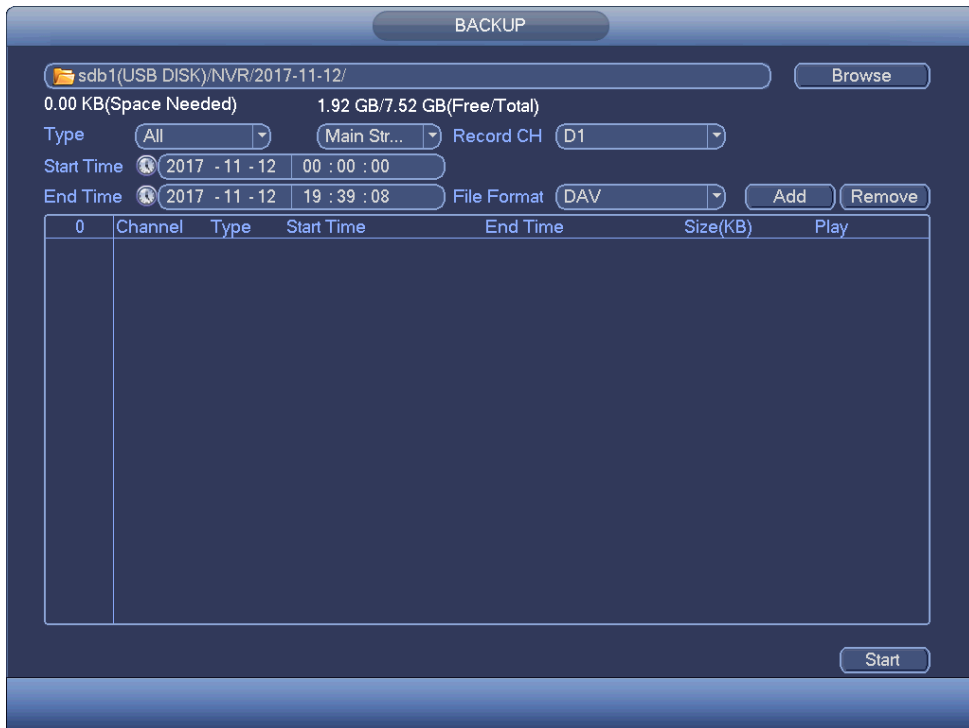

Figure 4-124
- b) From Main menu->Backup, you can go to the Backup interface. See Figure 4-124